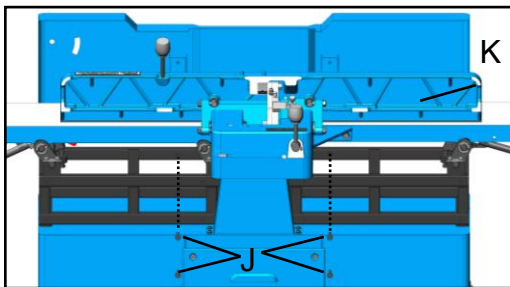

Fig. 14
The outfeed table should be set level with the highest point of the knives, Fig. 14. The height of the outfeed table should be verified and adjusted prior to first use. It should also be verified and readjusted periodically to compensate for knife wear and also upon knife replacement.
3. Loosen 4 CAP screws (J) on the base frame by 5mm Hex. Wrench, remove the front cover (K), Fig. 14.